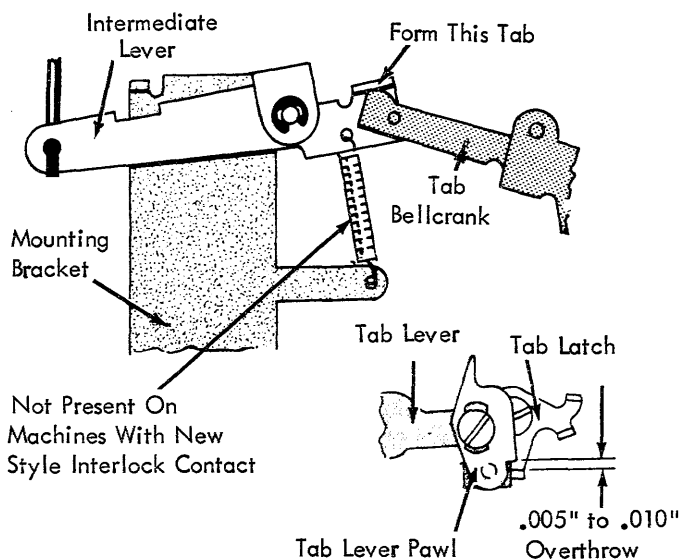

FIGURE 166. Intermediate Lever Tab
6. Intermediate Lever Tab (Fig. 166) - With the tab interposer released and the Tab/Sp/BS cam on its high point, form the intermediate lever tab so that the tab lever pawl overthrows the tab latch by .005" to .010".